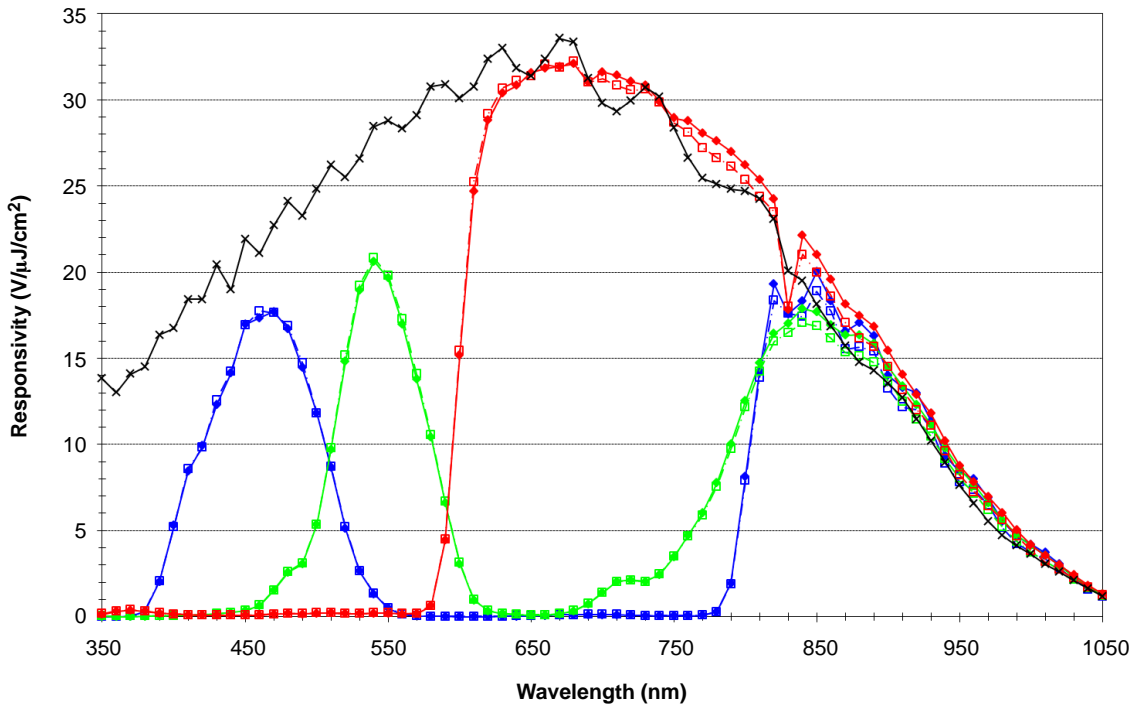

Figure 12. Typical Responsivity
2. With color filter. Values specified at filter peaks. 50% bandwidth = ±30 nm. Color filter arrays become transparent after 710 nm. It is recommended that a suitable IR cut filter be used to maintain spectral balance and optimal MTF. See Figure 12.